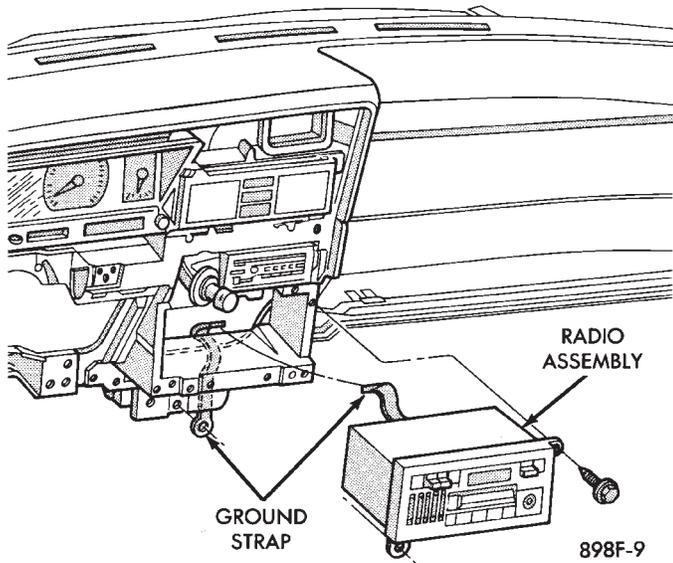

Fig. 4 Radio Assembly—AA BODY
- (1) Remove center bezel by pulling straight back disengaging the five clips.
- (2) Remove radio mounting screws (Fig. 4)